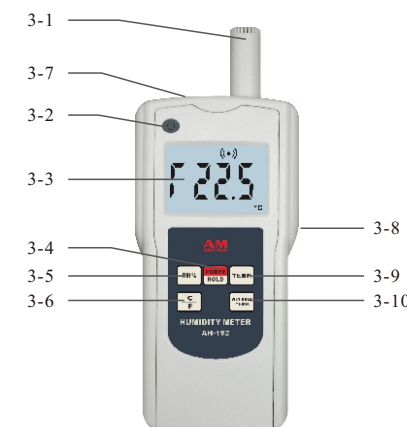

Fig. 1
- 8.1 Slide the Battery Cover (Fig. 1 , 3-8) away from the instrument and remove the batteries.